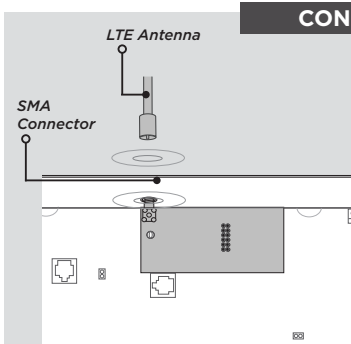

Figure 4: XT30/XT50 Series Panel
2. Connect the 263LTE SMA connector to the included antenna at the hole in the top of the panel. See Figure 4.